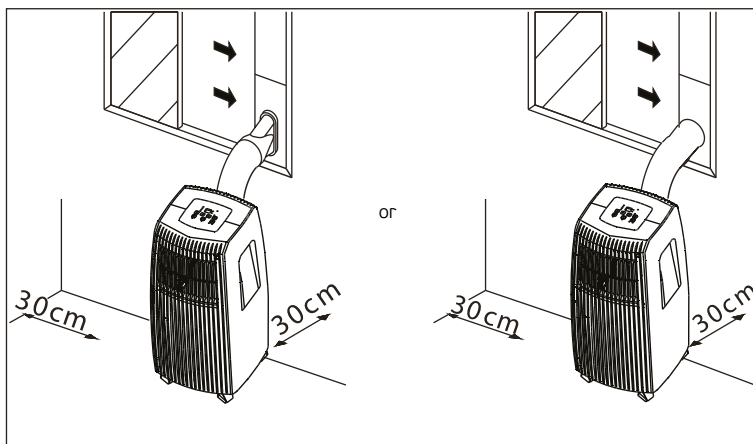

Fig. 1
1. Ensure at least 30 cm of free space on the filtering side of the unit (Fig. 1).